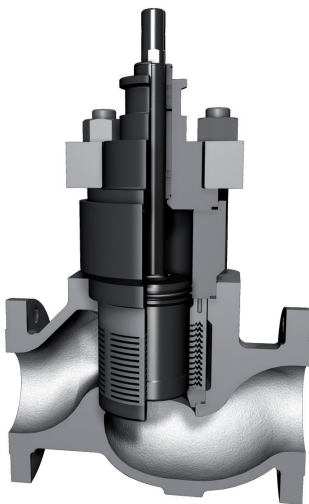

Figure 11: Mark One with TigerTooth Trim Body Assembly
8.6.1 TigerTooth replaces the standard Mark One retainer with a welded or pinned, stacked-disk retainer, see Figure 11. Several of the parts, including the plug, seat ring and bonnet have dimensional differences from the standard Mark One design. Assembly and disassembly of the valve follows the standard procedures.